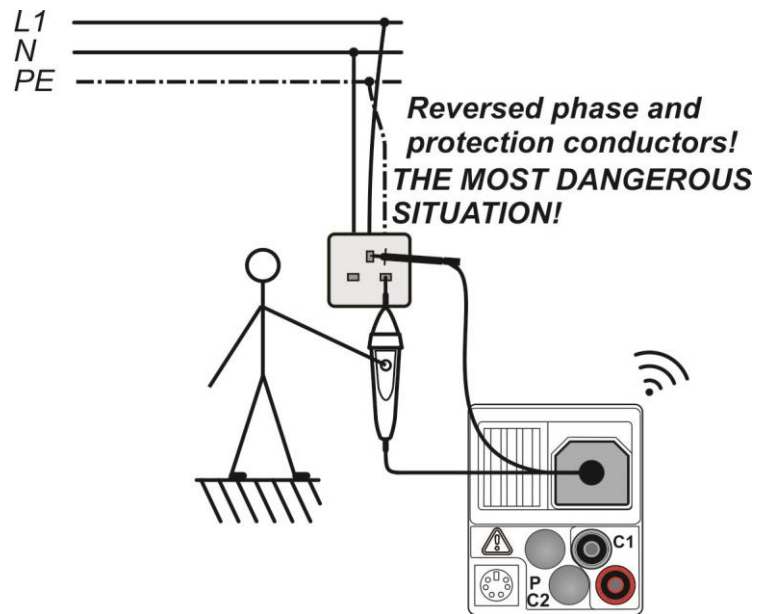

Figure C.3: Reversed L and PE conductors (application of tip commander)
- ❑ **Connect** commander to the item to be tested (see figure C.3).